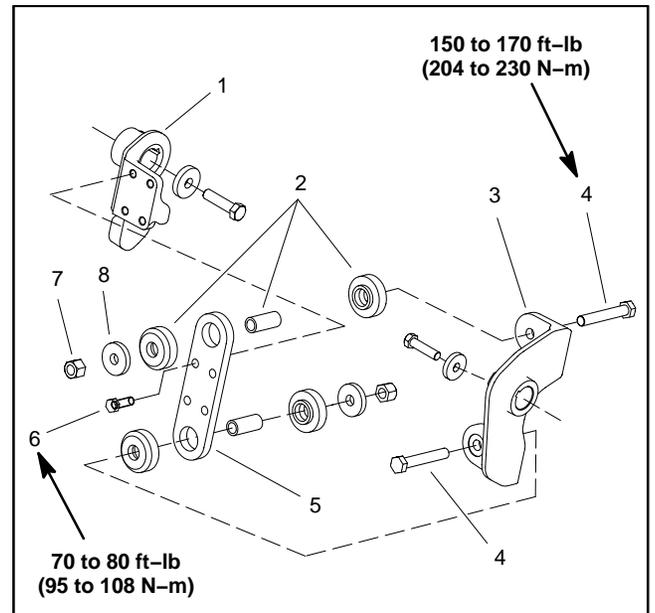

Figure 14
- C. Cap screws that secure coupling plates (Fig. 14).